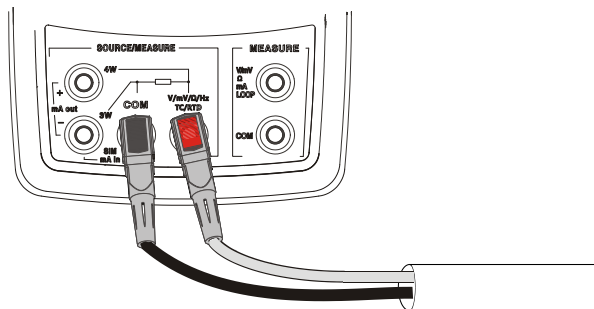

Figure 5.1-1
1. Connect the thermocouple to the calibrator as shown in Figure 5.1-1: